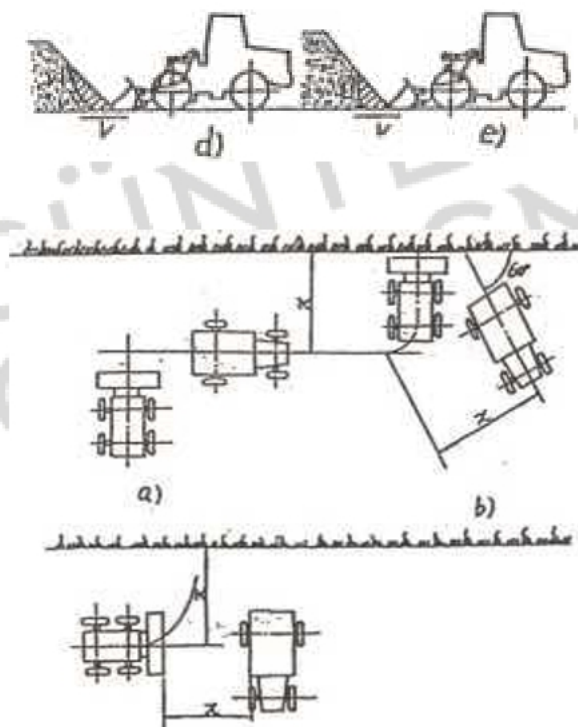

Figure 3-3: operating model of loader
For the loader to cooperate with the dump truck in operation, the most common operating modes are as follows (see Figure 3-3):
a. U-shape operating (see Figure 3-3 a). The dump truck moves forward and backward in